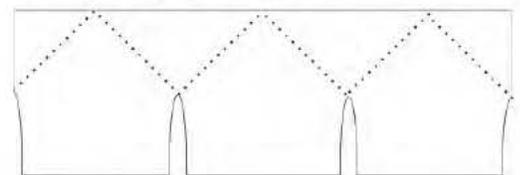
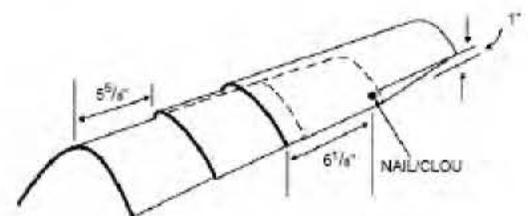

Figure 7
Figure 8
**Step 6.** Cut strip shingles into individual pieces by dividing at the cutouts. Figure 7. Bend each piece over the ridge, and nail 6-1/8" above the butt edge 1" in from each side, exposing each piece 5-5/8" to the weather. Figure 8. The final shingle should be set in cement and the exposed nail heads of this shingle should be covered with cement. Prior to application in cold weather, store ridge shingles in heated area to allow for easier bending.